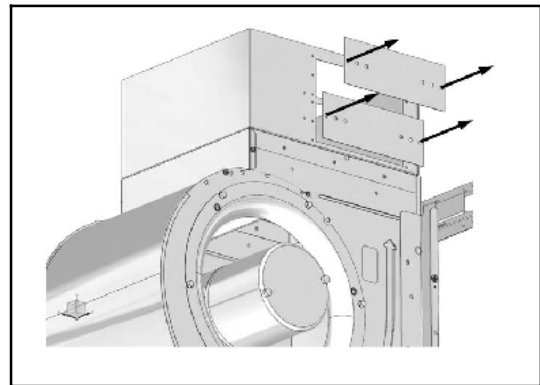

Fig. 6 — Heater Collar Cover Plate Removal
5. Remove the heater collar cover plate(s) (see Fig. 6)